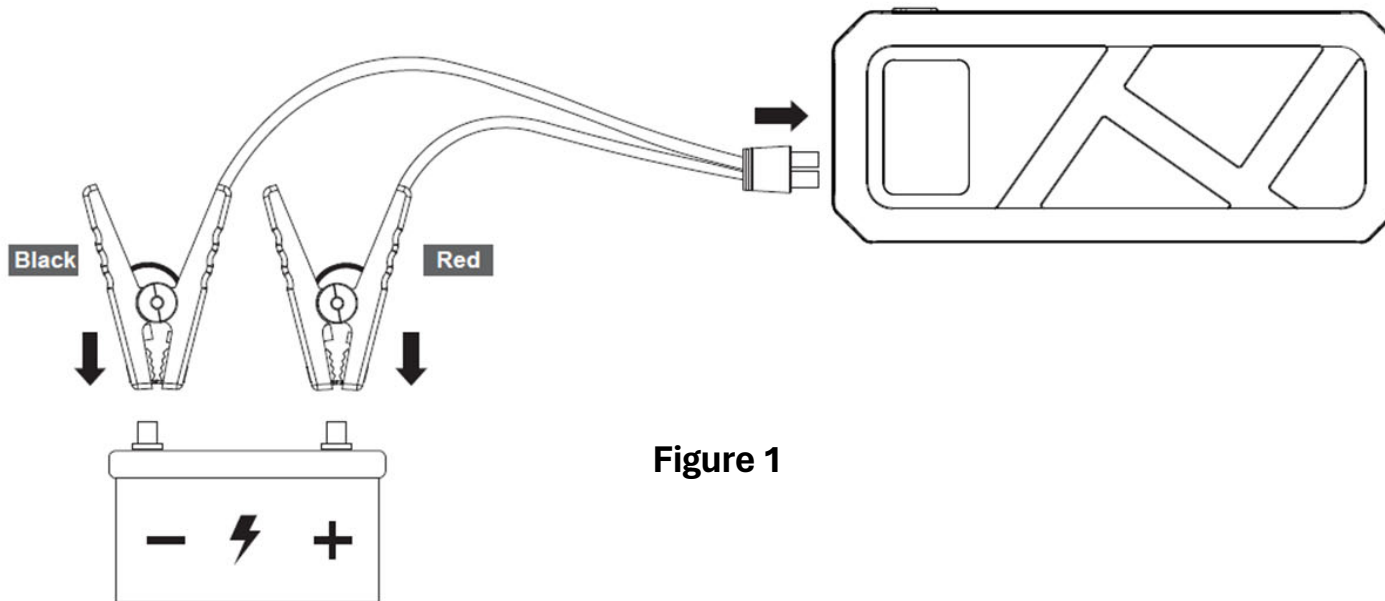

Figure 1
1. Connect battery clamp cable to plug ⑤ on the NS800.
2. Attach the NS800 battery clamps to the vehicle battery terminals. See Figure 1 on page 9. (If the battery voltage is above 7V, it can charge the NS800 to 100%. If the voltage is lower, use another battery source.)
Connecting to the Battery if not already connected from Option A. See Figure 1 below:
3. Attach the battery clamps to the Positive (RED +) and Negative (Black -) terminals on the low battery. See Figure 1.
4. Press the Power Button (7) five (5) times to force initiate Start Mode.
6. Press the Power Button (7) for 1 second to begin the countdown timer. Wait for the steady tone to start the vehicle.